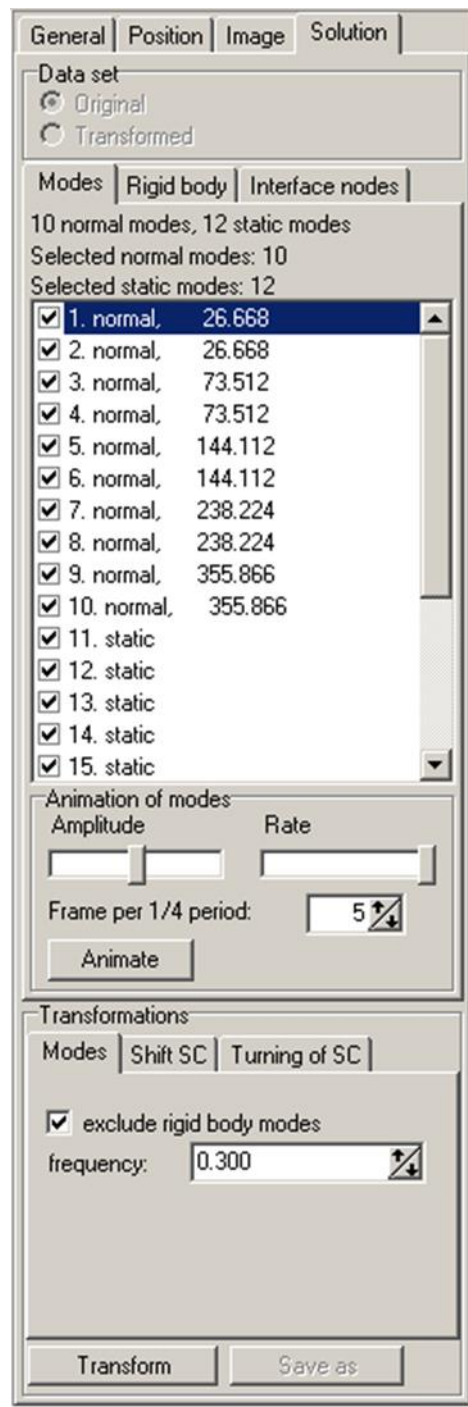

Figure 1.9.
The **Solution** tab gives you a possibility to animate modes of elastic subsystem. To start animation you should click the **Animate** button, see Figure 1.9. You can control this animation with the help of **Amplitude** and **Rate** track bars.
9. Turn on the **Transformations | Exclude rigid body modes** (Figure 1.9).
10. Set **Transformations | Frequency** to **0.3** (Figure 1.9).